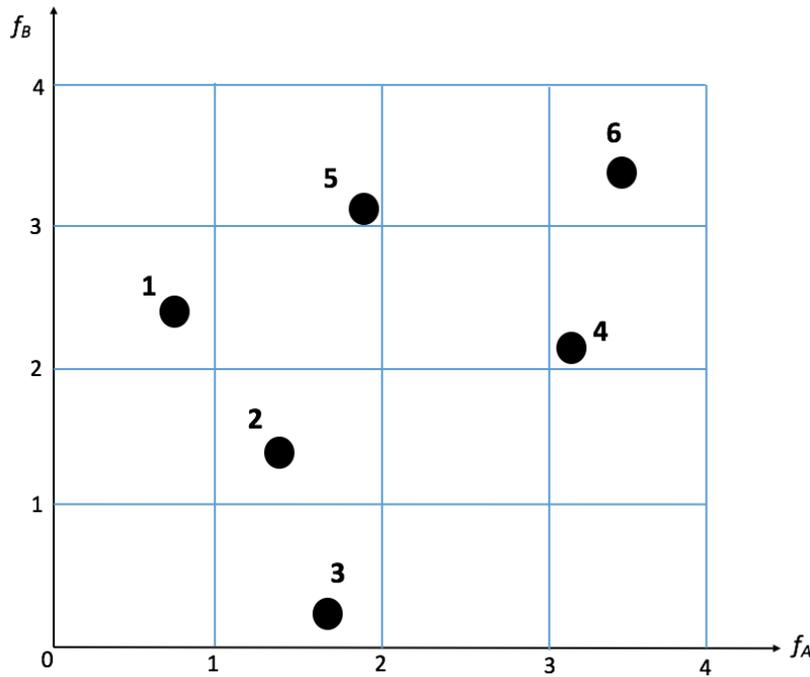

Fig. 3: Population of the 6 individuals considered in question 6).
6) You have now at your disposal an optimizer which relies on the NSGA optimization method (Non-dominated Sorting Genetic Algorithm) in order to solve the problem described in 5). Figure 3 displays the population of 6 individuals computed at a given generation of the algorithm. It is reminded NSGA gives the value "population size" to the fitness function for designs with a dominance rank equal to 1 then decreases this value with a quantity ϵ for the designs belonging to every new dominance rank. Assume here $\epsilon = 1/2$. The NSGA algorithm also uses a sharing function to
- Give the fitness value for each design of the population plotted in Fig.3, carefully explaining how you compute these values - you can use Fig. 3 to provide useful information.